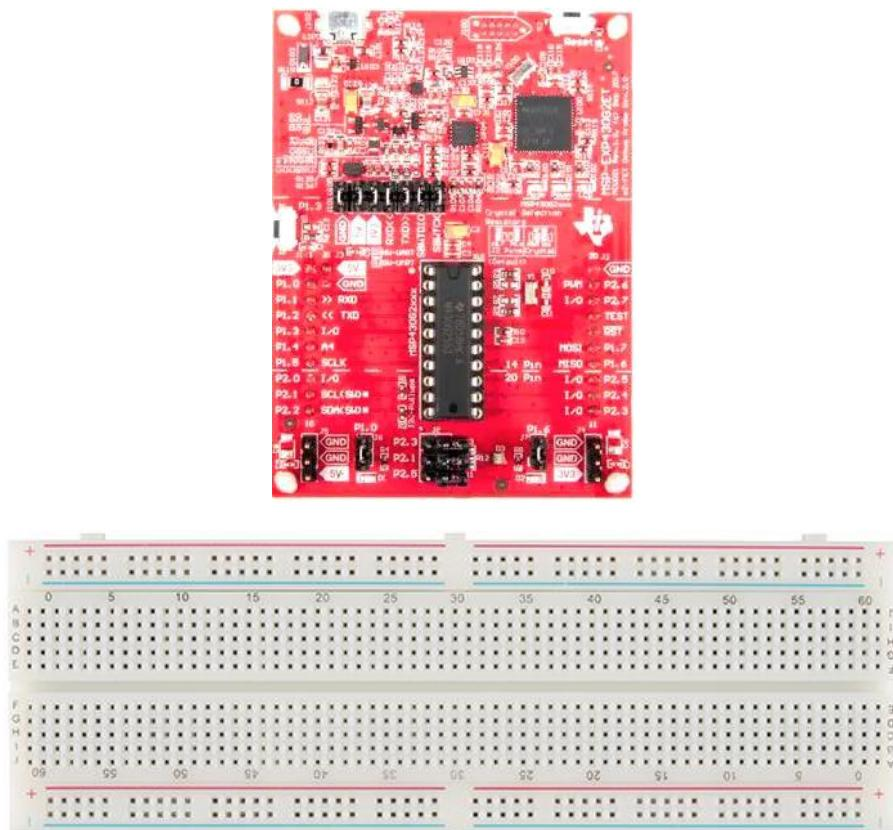

Figure 1: The MSP-EXP430G2ET development board and breadboard.
1.0: Description – In this assignment, the students will build a prototype of their junior design project using the MSP-EXP430G2ET development board from Texas Instrument and one of the breadboards from the junior design laboratory (Figure 1). The students will then develop the software required for the junior design project.